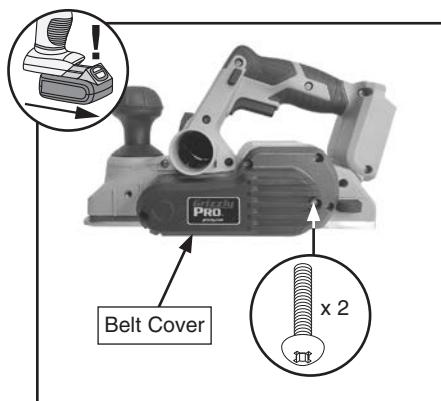

Figure 29. Location of belt cover and Phillips head screws.
2. Remove (2) Phillips head screws shown in **Figure 29** to remove belt cover.